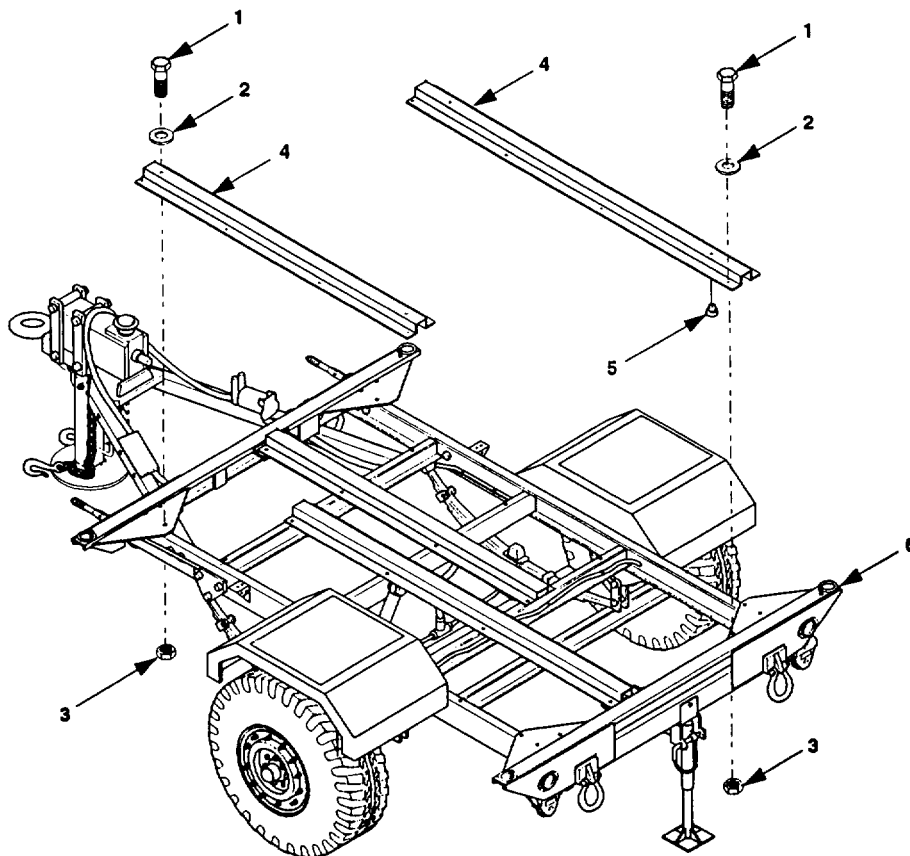

Figure 5-21. Replace AN/MIQ-35 Generator Mounting Rail.
Remove self-locking nuts (3, figure 5-21), flat washers (2), cap screws (1), and mounting rail (4).